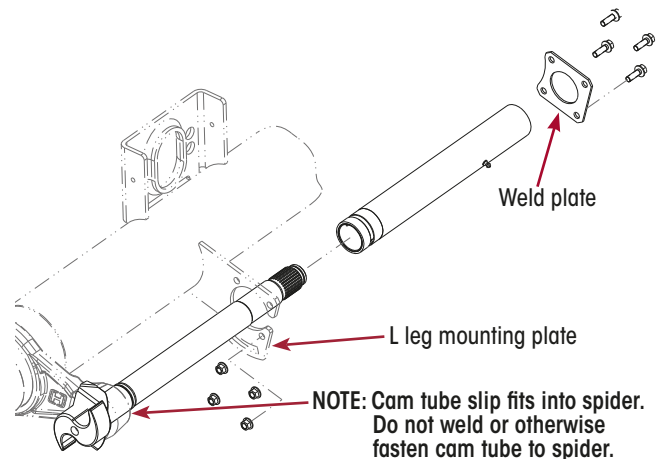

Figure 79: TRLAXLE Cam Tube Assembly Overview
1. Slide the new cam tube assembly (machined end first), from the inboard side of the axle, through the L-bracket and into the spider. The machined end should slip completely into the spider boss, but not press fit. Refer Figure 79.